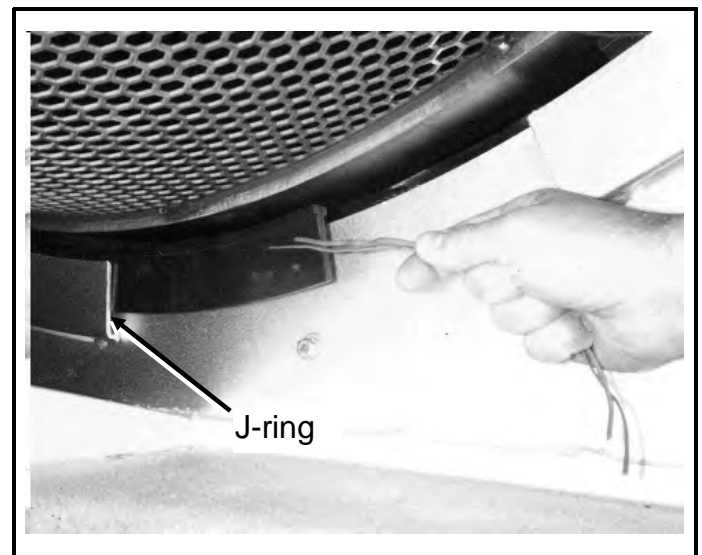

FIGURE 2 (MSSM0108AE)
4. Thread a piece of strong, flexible wire through the holes in the end of the T-Seal, as shown in FIGURE 2, and remove the T-Seal from the J-ring by pulling the wire while another person hand turns the basket via the large cog belt pulley.